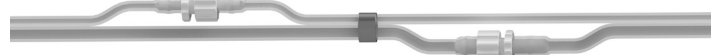

Fig. 2
- For cleaning/disinfection the joints stay closed (fig. 2).